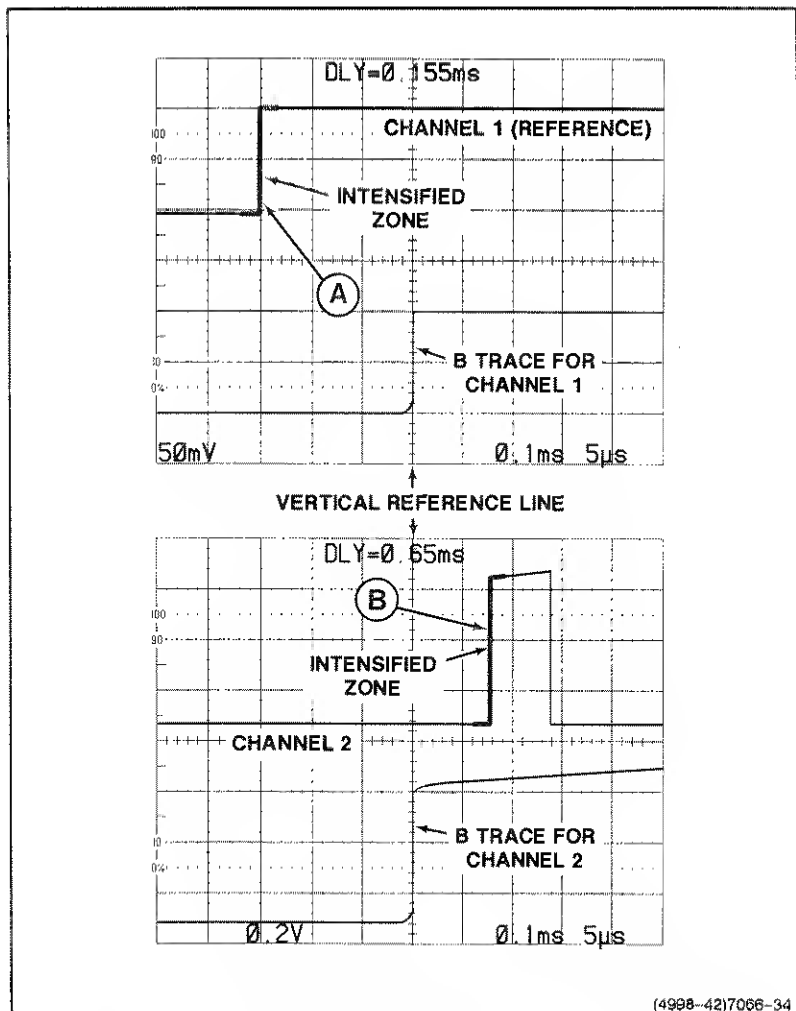

Figure 6-13. Time difference between two time-related pulses, differential time method.
7. Rotate the B DELAY TIME POSITION control to move the intensified zone to the rising edge of the reference pulse (on the A trace); then fine adjust until the rising portion (on the B trace) is centered at any convenient vertical graticule line (see Figure 6-13, Point A).
10. Rotate the B DELAY TIME POSITION control to set the rising portion of the Channel 2 pulse (on the B trace) to the same vertical reference point as used in step 7 (see Figure 6-13, Point B). Observe the A trace to position the intensified zone to the correct pulse (if more than one pulse is displayed). Do not change the setting of the Horizontal POSITION control.